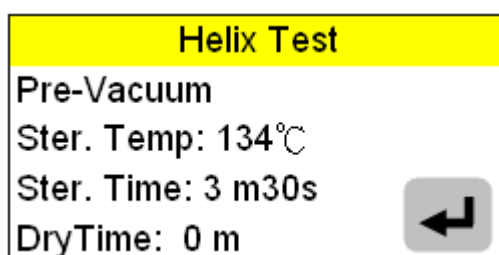

Figure 91
- E. Press  button to confirm the selection of Helix Test Program, as shown in Figure 91.